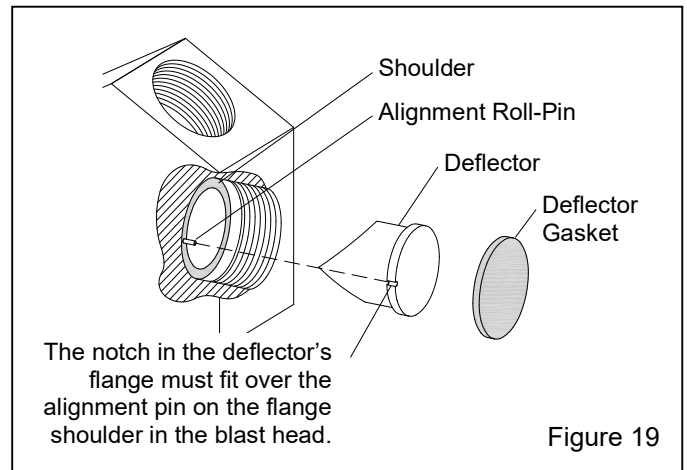

Figure 19
**7.3.1.8** Refer to Figure 19. Slide the deflector into the head and position it so the notch in the deflector's flange fits over the alignment pin; the flange must seat firmly onto the shoulder. Note that the tolerance is very tight between the deflector and head; some realigning may be needed to keep the deflector straight within the head. The deflector must be inserted straight into the head with no cocking or binding. Make sure the deflector is correctly seated; the top of the alignment pin should be at the top of the deflector.